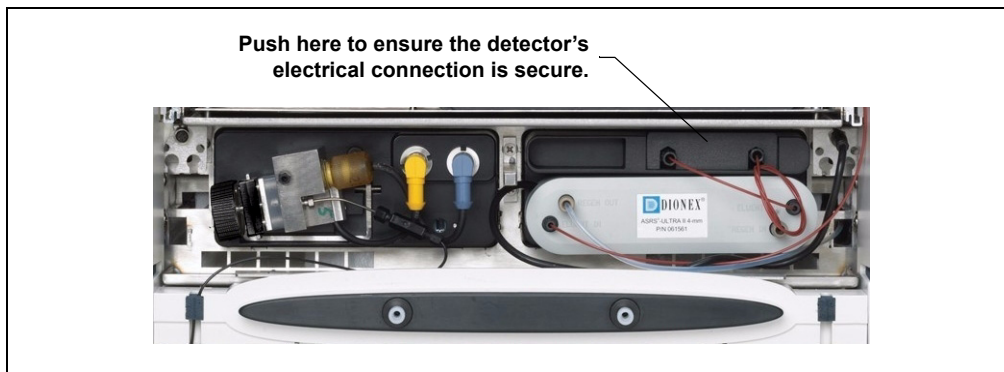

Figure 8-3. Conductivity Detector Connection
1. Check the detector connection: An electronics connector on the back of the detector plugs into a receptacle on the detector compartment. Push on the upper part of the detector (see Figure 8-3) to make certain the connector is securely connected.